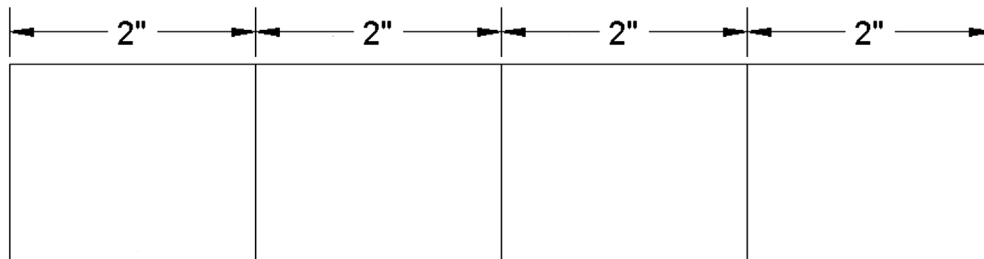

FIGURE 6.10 Continuous dimensions result.
Step 3. You can continue this until you run out of objects to dimension; at that point, just press Esc. Your result is shown in Fig. 6.10. Notice how all the values are neatly spaced in a row.